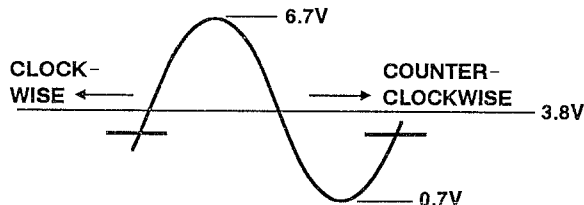

Figure 6. Voltage Change in Coil Adjustment
9. Turn PLL VCO coil (T151) on main board fully clockwise, and then gradually turn the coil counterclockwise until voltage is at the maximum level (approximately 6.7VDC). Continue to turn the coil counterclockwise until the voltage is at the minimum level (approximately 0.7VDC), and then turn the coil clockwise until voltage indicates 3.8 ± 1.0 VDC. Voltage change in the coil adjustments is shown in Figure 6.